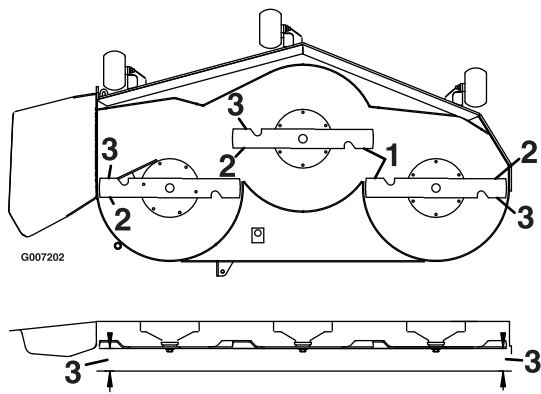

Figure 62
- Measure between the outside cutting edges and the flat surface (Figure 62).